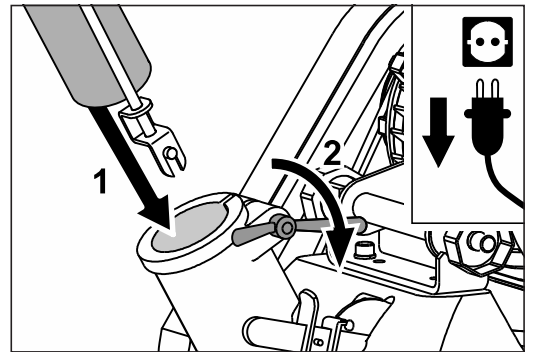

Fig. 6 Insert the guide tube into the opening in the machine housing (1). Tighten the wing nut (2).
- 2 Insert the guide tube into the opening at the back of the machine housing (fig. 6, 1) and tighten the wing nut (fig. 6, 2).